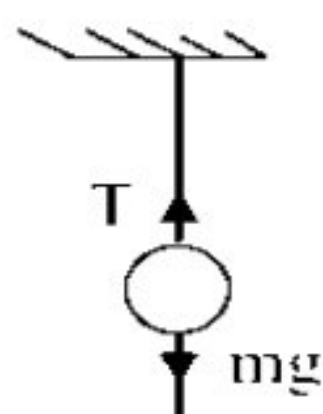

Fig. 4.1
- (i) The weight due to a body of mass $m = mg$ (Fig. 4.1). Therefore tension in the string is :